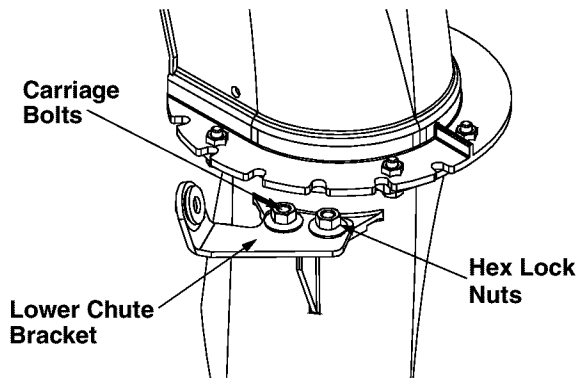

Figure 6
- To align the spiral on the chute directional control, you may have to loosen the carriage bolts and hex lock nuts securing lower chute bracket to the extension on the left side of the chute assembly. See Figure 6.